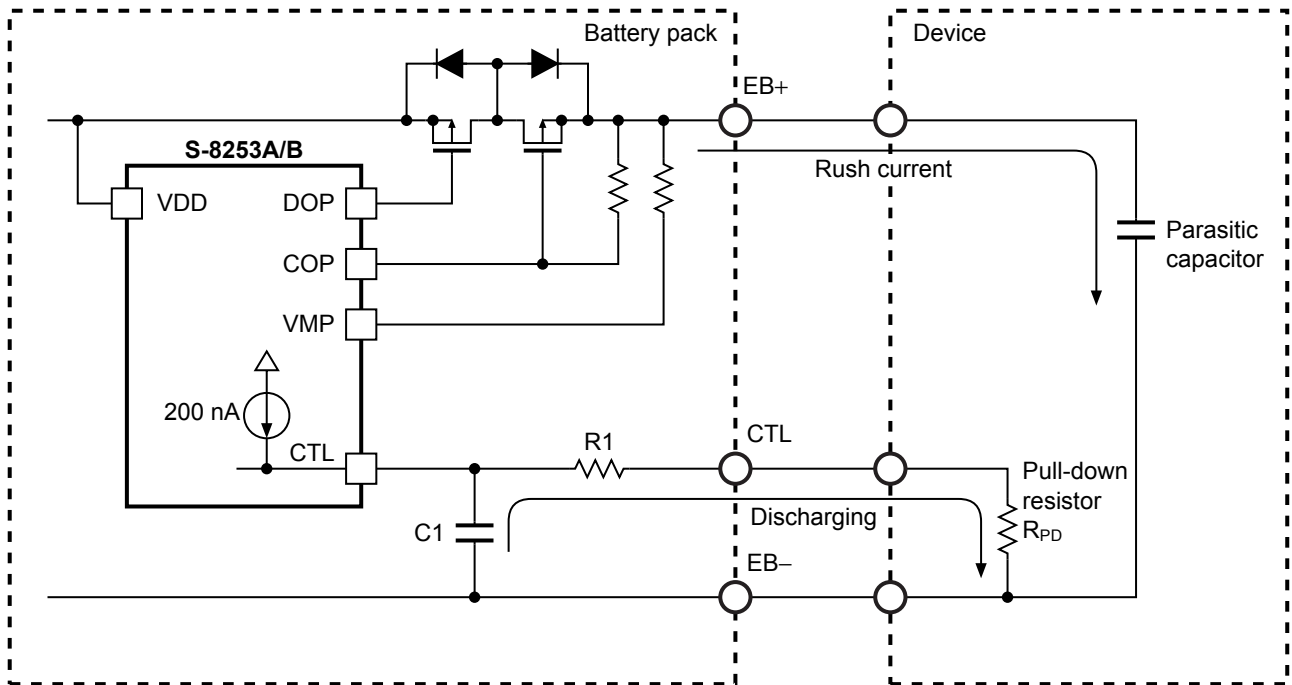

Figure 15
- In case of designing a circuit by using the CTL pin, as seen in **Figure 15**, note that discharging may stop during connecting a battery pack and the device.
As seen in **Figure 15**, before a battery pack is connected to the device, the battery pack may be in the charge / discharge inhibited status in which the CTL pin is internally pulled-up. From this status, if connecting the battery pack to the device, the CTL pin will be pulled-down in a time-constant $C1 \times (R1 + R_{PD})$ by a pull-down resistor in the device. If the CTL's potential reaches $V_{CTL} < V_{CTLH}$, the battery pack goes in the delay time-shortening status so that it releases charging and discharging, hence it starts charging a parasitic capacitor in the device. In this case, if the rush current, which makes the S-8253A/B Series to detect the overcurrent detection voltage $3 (V_{IOV3})$, flows into the device, the overcurrent detection delay time $3 (t_{IOV3} = 300 \mu s \text{ typ.})$ will be shortened. So that the battery pack goes in the overcurrent status in several 10 μs . However, the battery pack goes in the normal status by connecting the device to the charger.